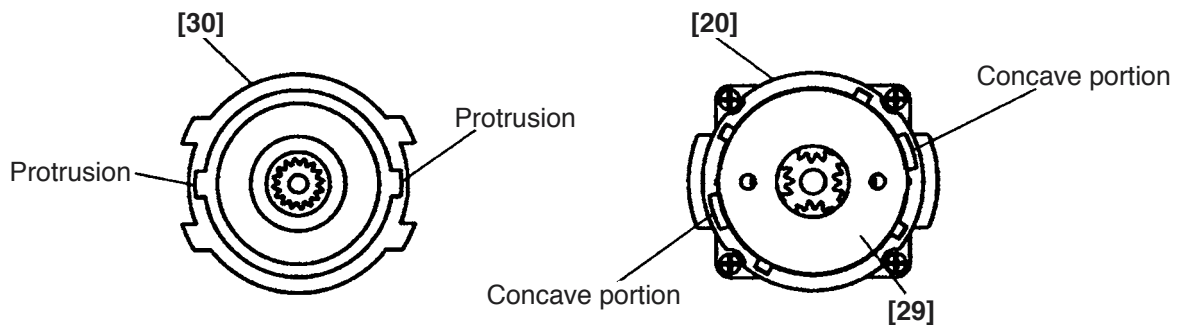

Fig. 14
(5) Reassembly of the drive unit
- (a) Fit the protrusion of the Motor Spacer [30] in the concave portion of the Rear Case [20] engaging the pinion of the Armature and Pinion Set [31] with Planet Gear (A) Set (4 pcs.) [27]. Turn it fully clockwise viewing from the rear of the Armature and Pinion Set [31] (see Fig. 14).